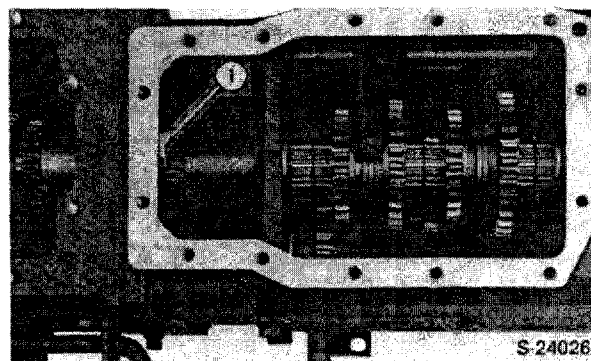

Figure 21
16. Remove the transmission cover, Figure 21.
18. Remove the internal buckle-up bolt (1), Figure 21.